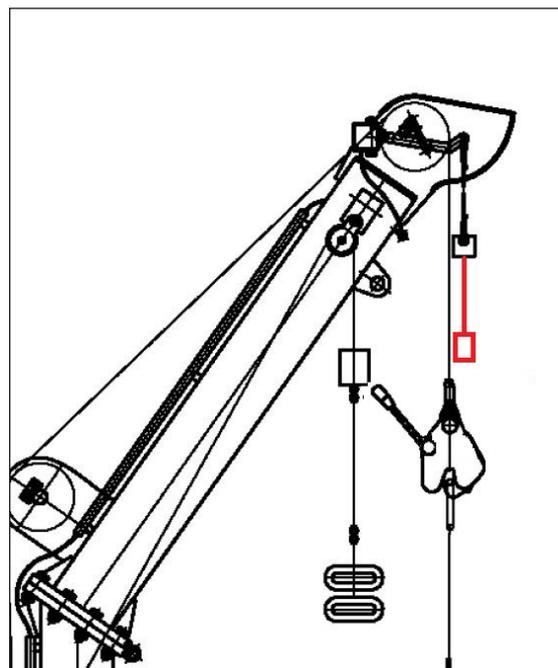

Figure 12: Sketch showing the extended limit switch on the wire
2) The boat was not always hoisted this far out of the cradle before the davit was lowered because the limit switch had been mounted further down the hoisting wire on STAVANGERFJORD than on BERGENSFJORD (figure 12).